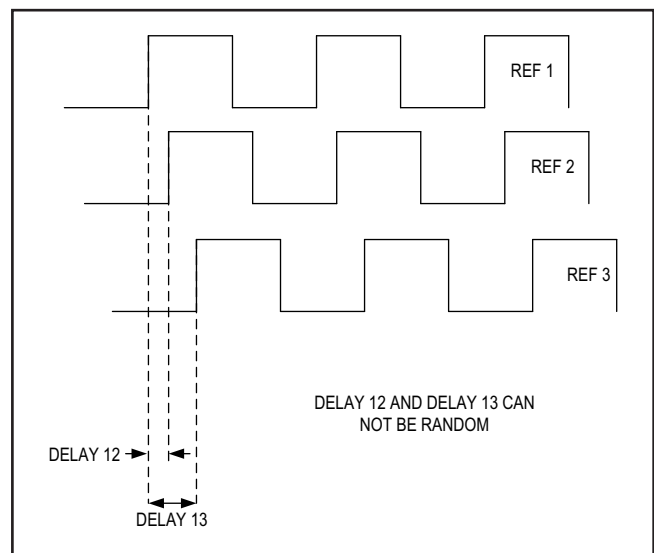

Figure 6. Reference Signal Relative Delay
4. The relative delay of reference signal at each MAX2871s reference pin can **NOT** be random. Refer Figure 6.